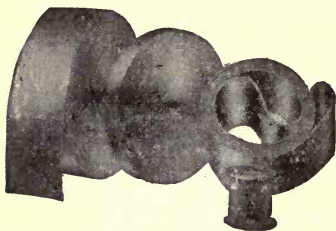

FIG. 141.—Oak-Tanned Leather Belting.
**326. Leather Belting.**—Most belts used in machine shops are made of oak-tanned leather (Fig. 141), but canvas is sometimes substituted for leather belting. Single belts are made from one thickness of leather or canvas, and are  $\frac{3}{16}$  of an inch thick. Double belts are made from two thicknesses cemented together, triple belts from three thicknesses, and quadruple belts from four thicknesses. As a rule it is not advisable to use anything but single belts on pulleys smaller than 12 in. in diameter. Double belts, however, transmit